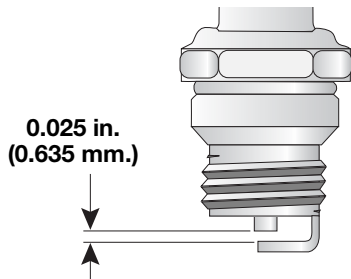

Fig. 68
3. Replace cracked, fouled or dirty spark plug. Set the air gap at 0.025 in. (0.635 mm.) using a feeler gauge (Fig. 68).